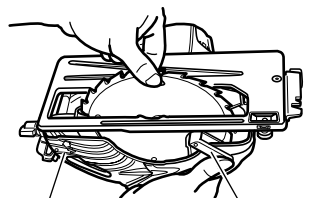

Fig. 17
- (2) Depress the lock lever, lock the spindle, and remove the left-hand bolt and washer (B2) with the box wrench.
- (3) While holding the lower guard lever to keep the lower guard fully retracted into the saw cover, remove the saw blade (Fig. 17).